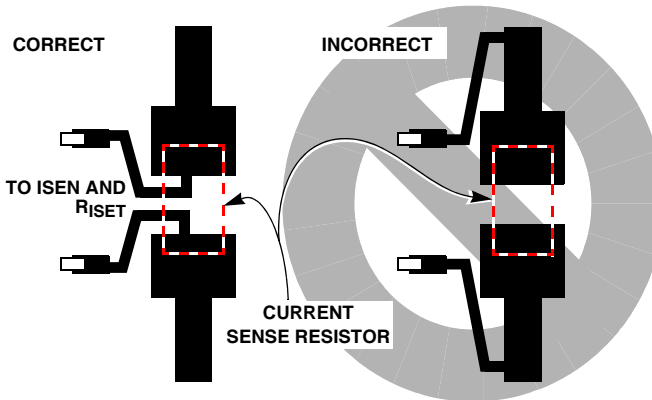

FIGURE 1. SENSE RESISTOR PCB LAYOUT
**Physical layout of  $R_{SENSE}$  resistor** is critical to avoid the possibility of false overcurrent occurrences. Ideally, trace routing between the  $R_{SENSE}$  resistors and the IC is as direct and as short as possible with zero current in the sense lines (See Figure 1).